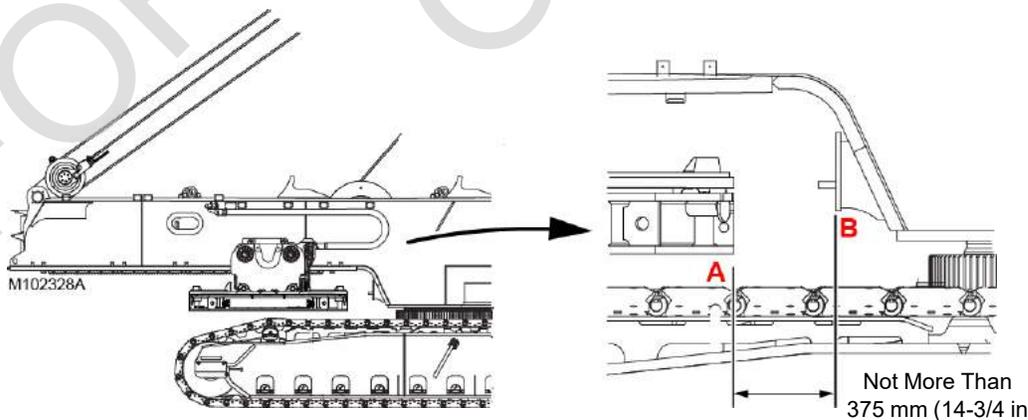

Figure 4-75
- Do not remove the counterweight boxes until the counterweight tray is traveled to the position shown in Figure 4-75. The crane will tip.
- Using the switch on the remote control, travel the VPC trolley forward until the distance from the front edge (A, Figure 4-75) of the counterweight tray to the edge (B) of the rotating bed is not more than the dimension given.
- Loosen the turnbuckles (9, View B) and remove the counterweight chain assemblies (7) from the counterweight boxes and the counterweight tray.